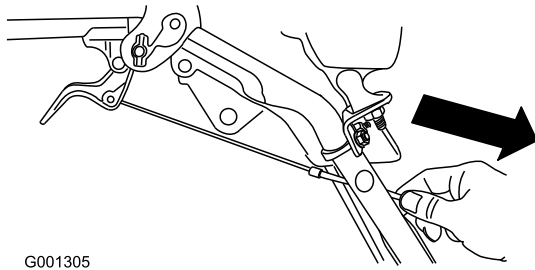

Figure 8
1. Cable clamp (2)
4. Pull the cable jacket down gently until the wheel clutch lever is down and the slack is out of the cable, then tighten the cable clamp nut securely (Figure 8).